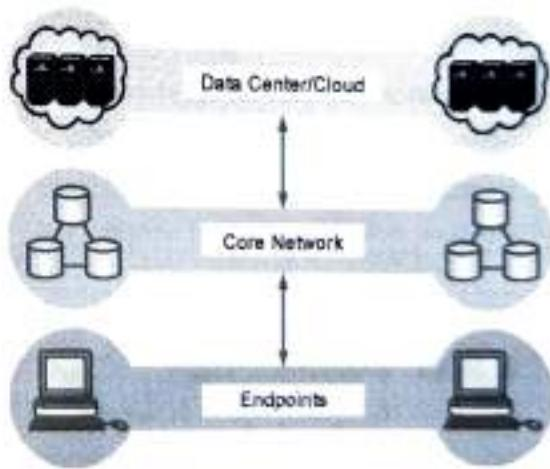

Fig. 2.10.2 : Traditional IT cloud Computing Model
- As shown in Fig. 2.10.2 data management in traditional IT systems is very simple.